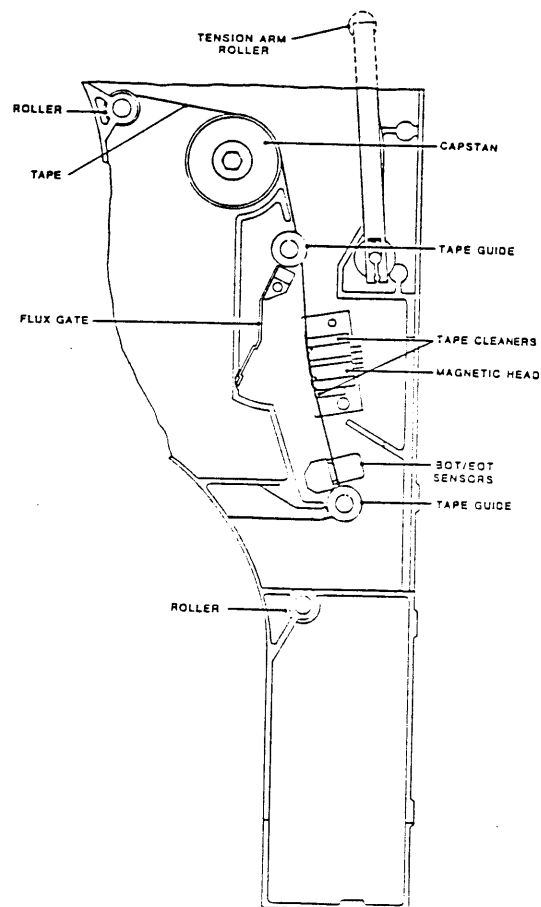

Figure 2-12. Tape Threading
1. Manually thread tape backwards through the tape path from the Take-Up Reel to the Supply Reel. Refer to Figure 2-12.